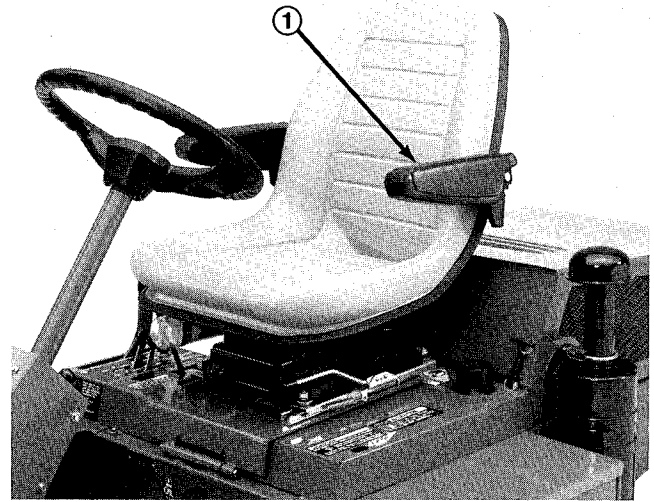

Figure 5
3. Mount seat support over four threaded studs at the bottom of seat suspension assembly and secure in place with lockwashers and nuts (Fig. 5).
5. Install arm rests to sides of seat with capscrows supplied with kit (Fig. 5).